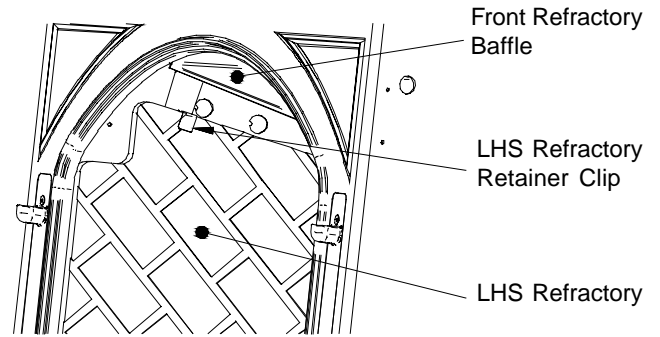

FIGURE 5 -Refractory Retainer Clip
**Step 3.** Remove the left hand side Refractory Retainer Clip by pushing up slightly on the front top Refractory Baffle and rotating the clip toward the front (see Figure 5).